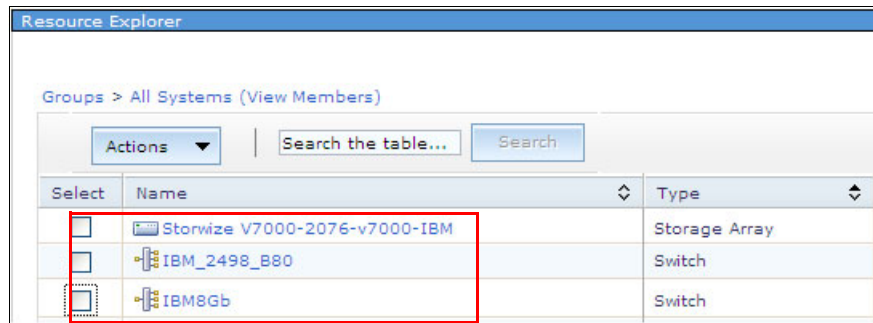

Figure 10-79 All Systems window in the Resource Explorer
3. Check that related resources exist in the All Systems window, as shown in Figure 10-79. In the example environment, there are three storage-related components: Storwize V7000, a Feature Code (FC) 3171 SAN pass-through, and an IBM System Storage® SANB80 switch.